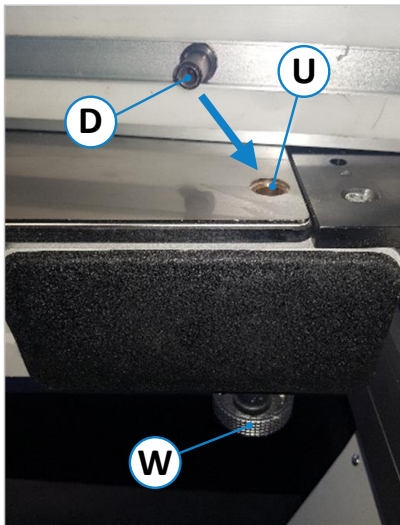
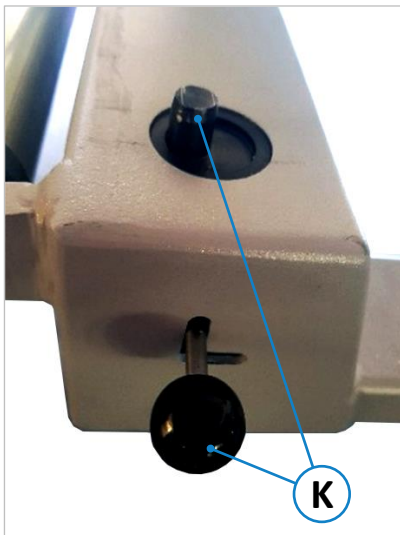
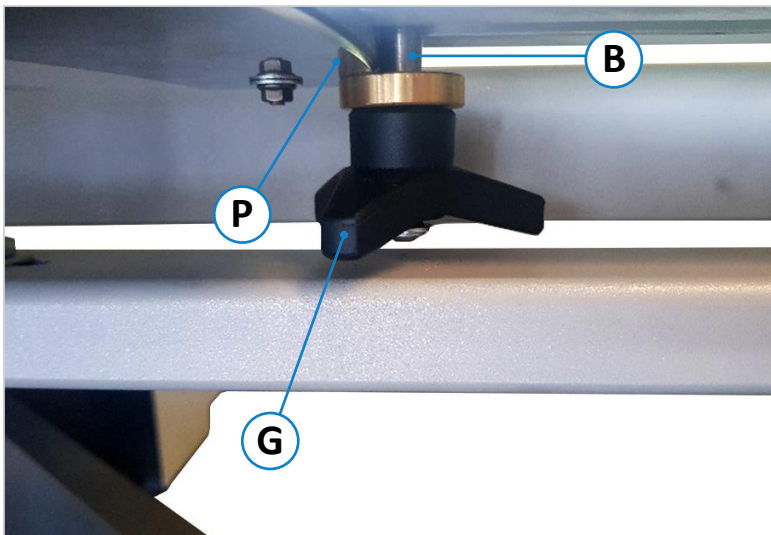
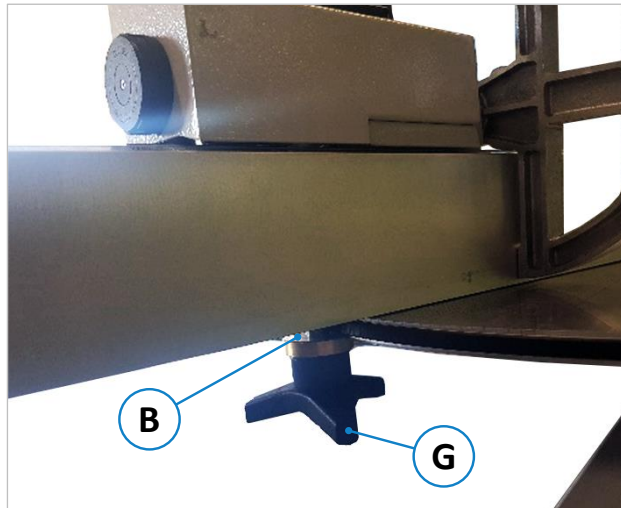

Figure 25: Mount cross-cut fence
Figure 27: Prepare 90 degree cut
Figure 28: Abut guide bolt to the angle stop plate
Figure 30: Adjusting the cross-cut fence
- Place the cross-cut fence (13) on the cross slide (22). At the same time insert the pivot bearing (D) from the cross-cut fence (13) into the locking guide (U) of the cross slide (22) as shown in ⇒ Figure 25.
- Engage the cross-cut fence (13) on the cross slide (22) with the rear locking bolt (K) in the provided groove on the cross-cut fence (see ⇒ Figure 27). The guide bolt (B) must abut against the angle stop plate (P) as shown in ⇒ Figure 28.
- Loosen lever for locking bolt (**K**), star grip (**G**) and locking handwheel (**W**) (see ⇒ Figure 25, ⇒ Figure 27 and ⇒ Figure 28).
- The guide bolt (**B**) must abut against the length angle stop plate (**P**) as shown in ⇒ Figure 28 and ⇒ Figure 30.